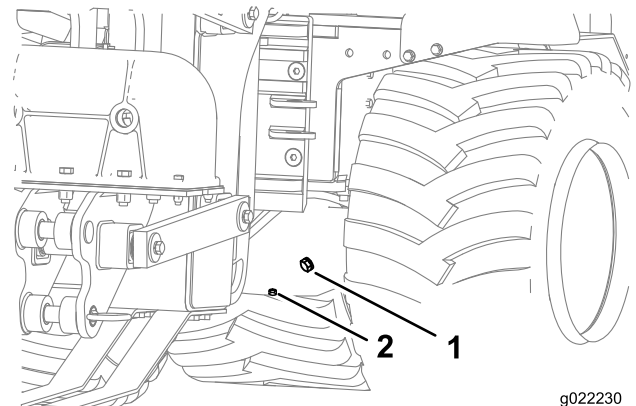

Figure 38
2. Loosen the drain plug and drain the oil (Figure 38).